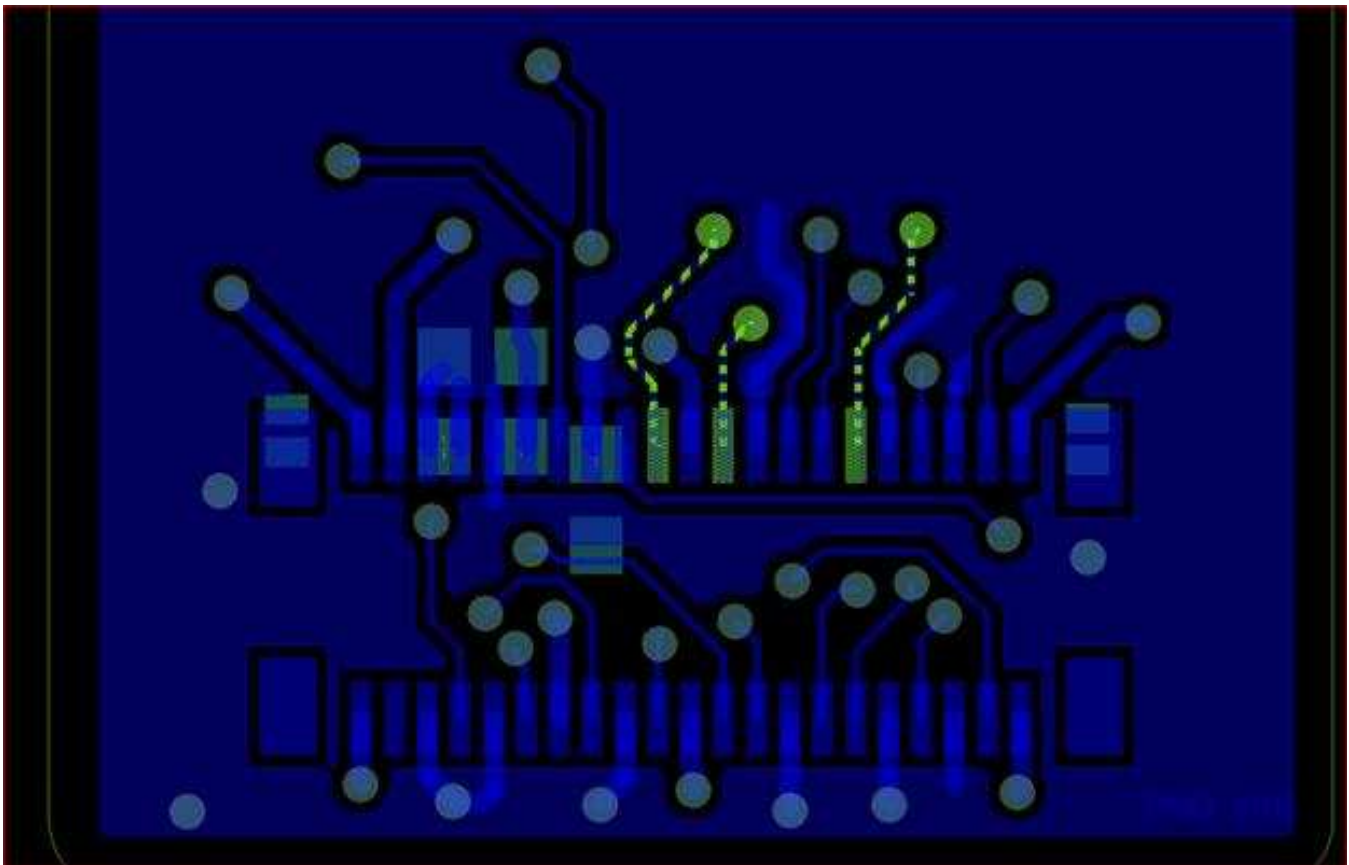
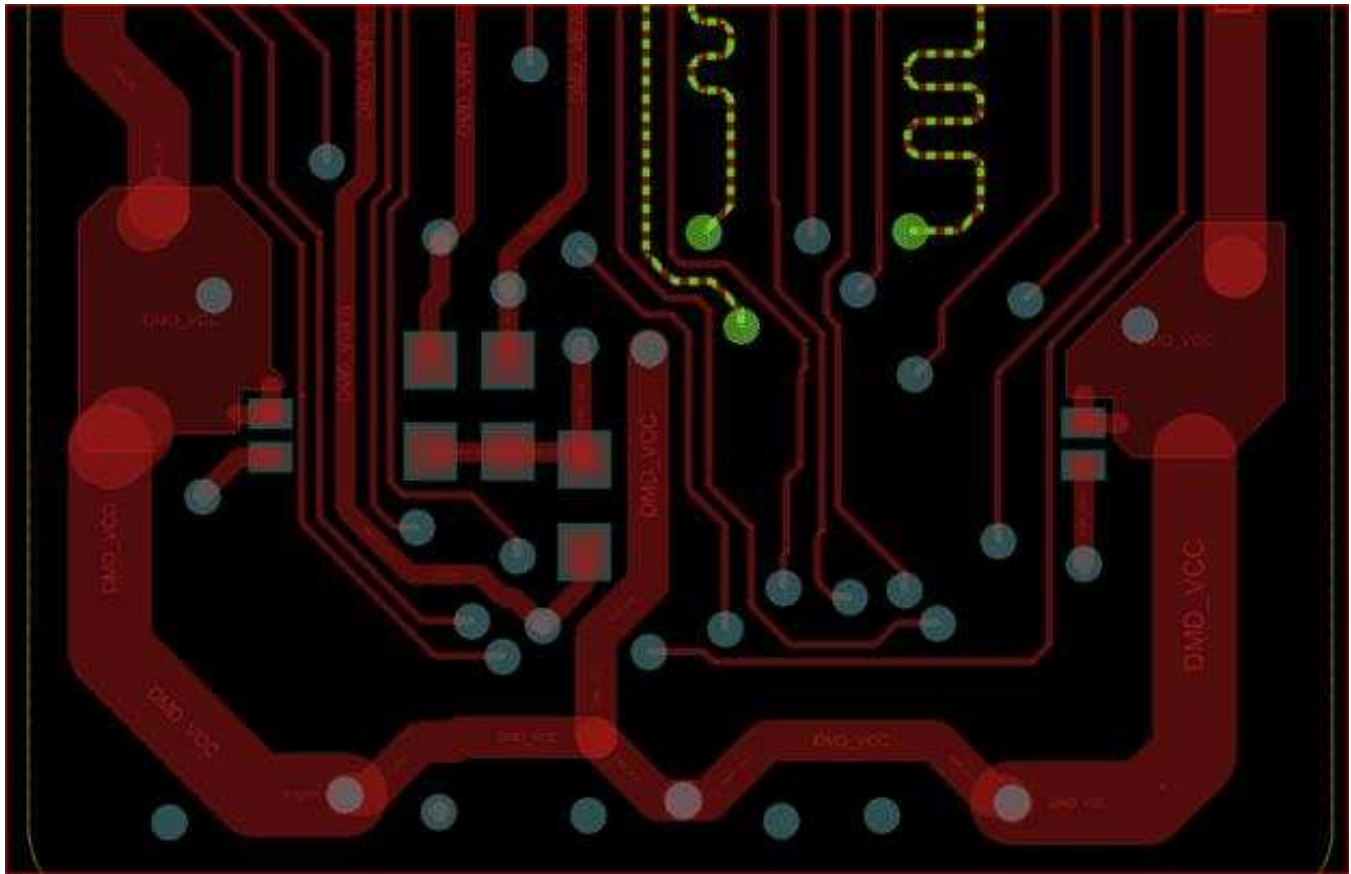

Figure 14. DMD Flex Cable - Top Layer
Figure 15. DMD Flex Cable - Bottom Layer
- Figure 14 and Figure 15 show the top and bottom layer of the DMD flex cable connections.